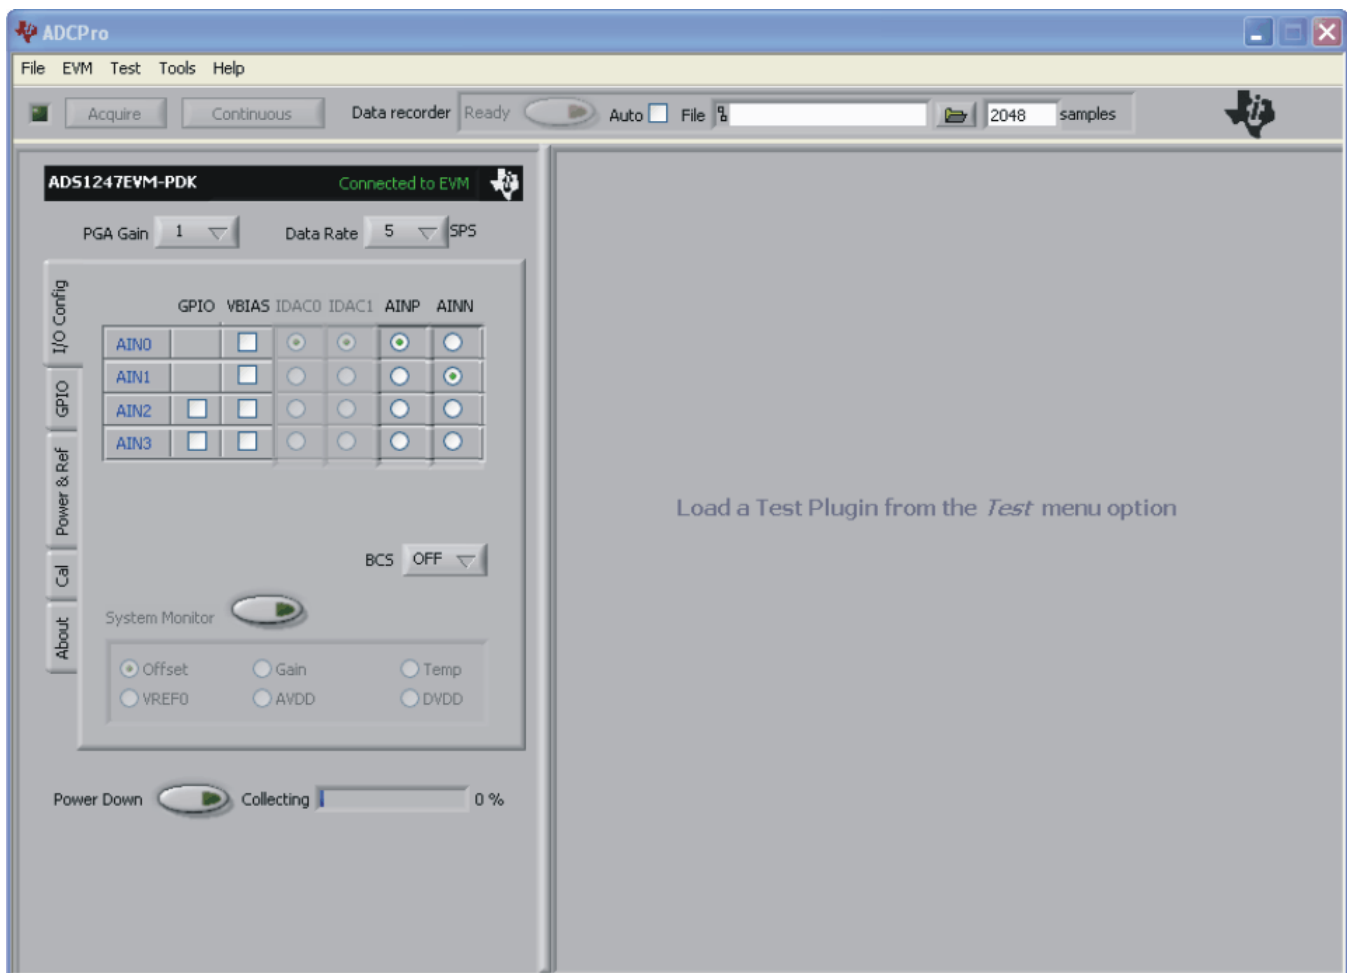

Figure 10. ADS1247EVM-PDK Plug-In Display Window
Step 2. Select *ADS1247EVM* from the EVM drop-down menu. The ADS1247EVM-PDK plug-in appears in the left pane, as shown in Figure 10.